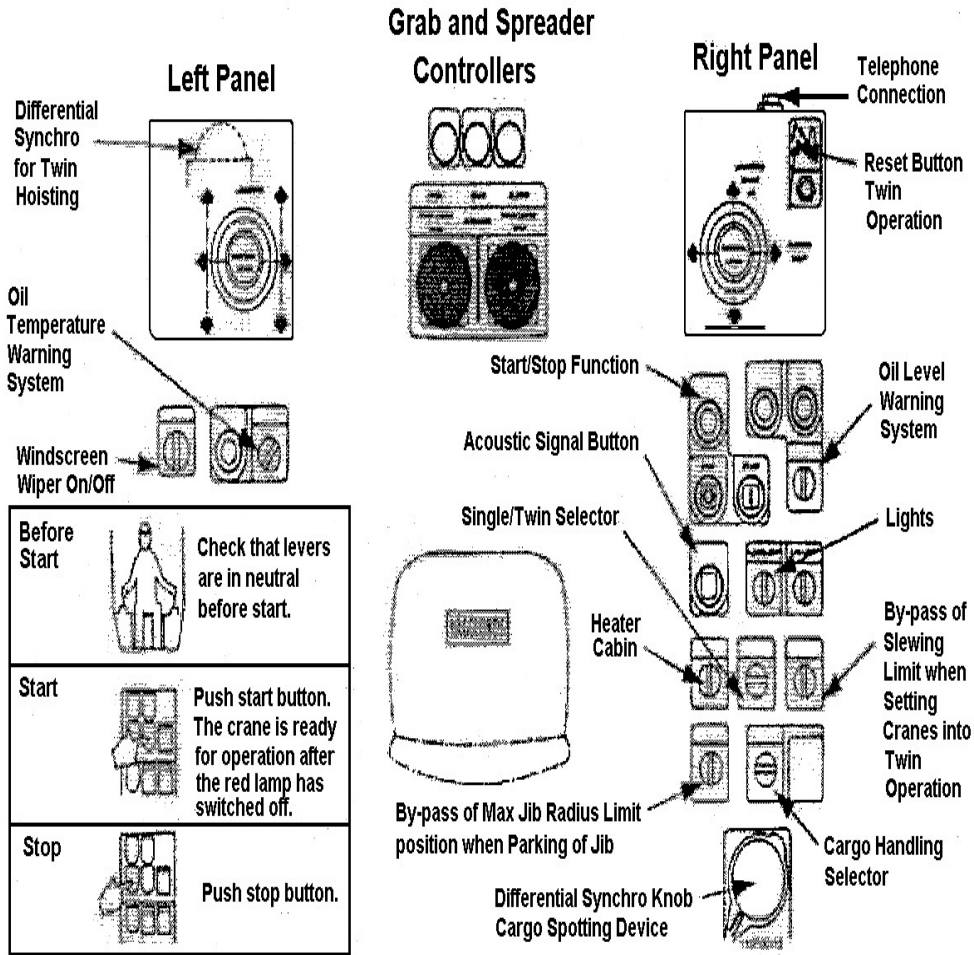

Figure 3-163
2. Direct set-up procedures for single mode operations (see Figure 3-163).